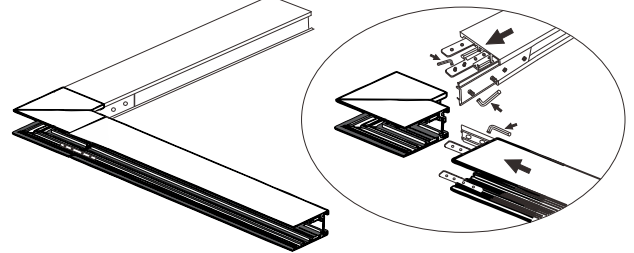

Figure5.2
2. The metal plate for fixing the inner pin and the back slot of the track and the Angle of the vertical outer L are well assembled, and fixed with the inner hexagon wrench Good screw; (Figure 5.2)